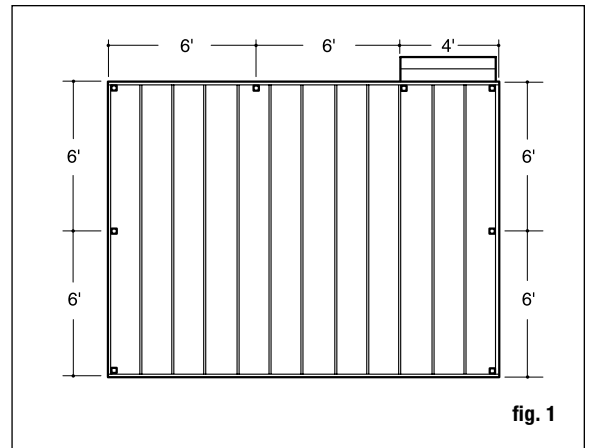

fig. 1
Step 1 Determine the number of railing posts needed for your deck. Post spacing is 6' or 8' on-center. Example: A 12'x16' deck attached to a building with a 4' access opening on one side will require a total of eight posts (fig. 1).